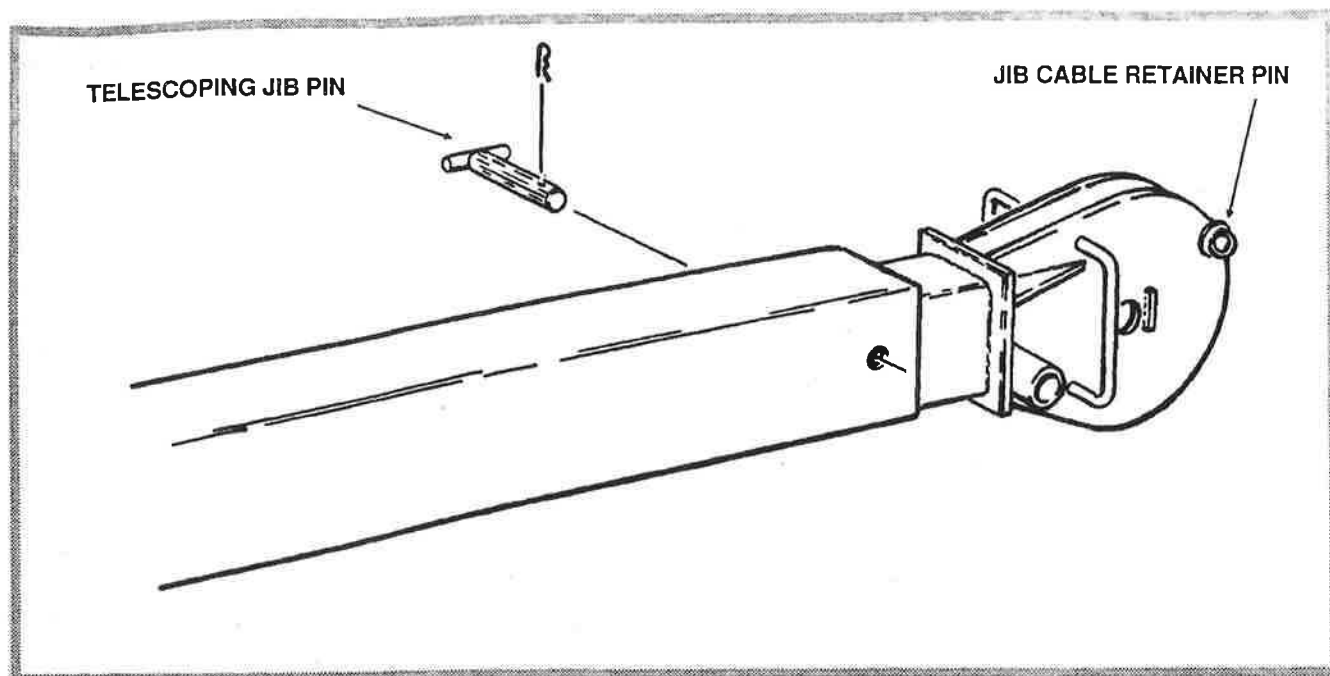

Figure 3-7. Telescoping Jib Pin Installation.
19. Re-install telescoping jib attach pin and secure with hair pin. (See Figure 3-7)